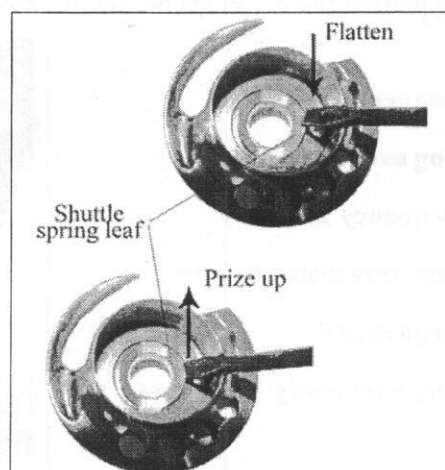

Fig.5
- (2) The tension of bobbin thread is adjusted through the shuttle spring leaf. Prize up the spring leaf with screwdriver and the bobbin thread will be tightened. (Fig.5)
- (3) If it is too tight, flatten the hem of the shuttle spring leaf with screwdriver. (Fig.5)
- (4) make sure that the spring leaf is not so flat that it can't get in touch with the shuttle. As a result, the bobbin thread can't be adjusted.